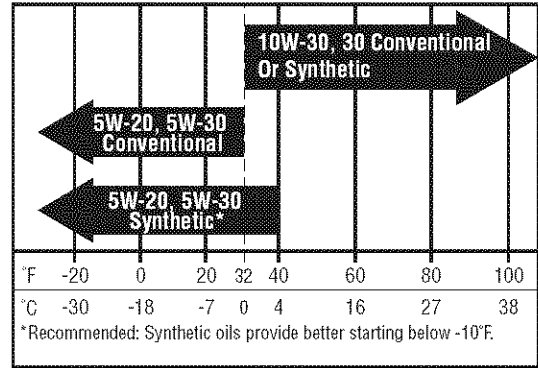
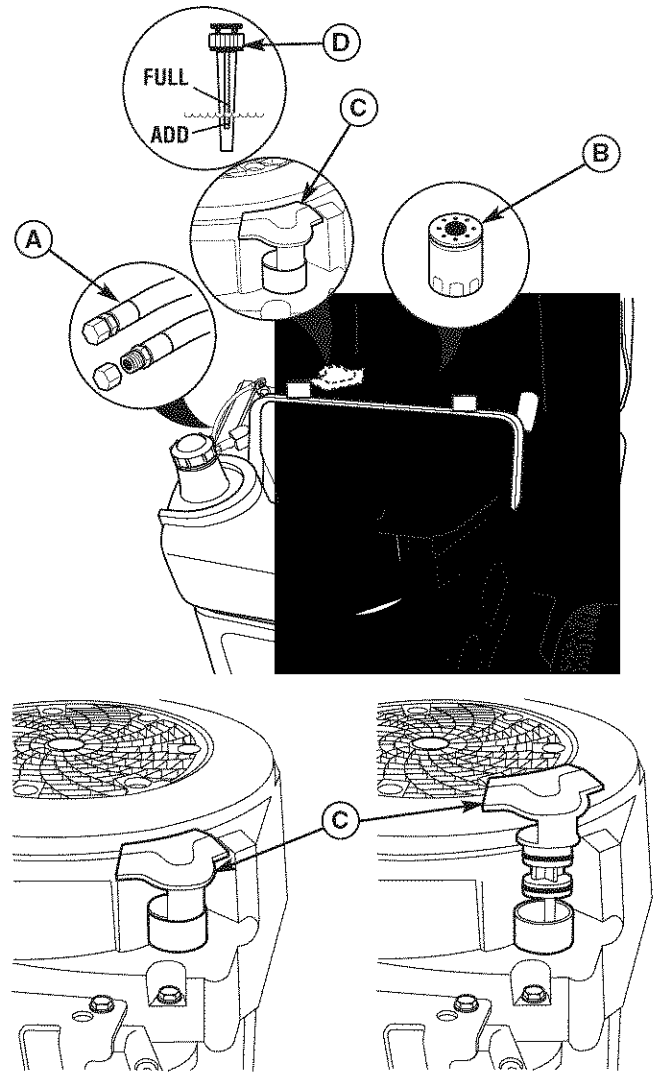

Figure 24. Recommended Engine Oil - Kohler Models
Figure 25. Oil Change - Kohler Models
2. Clean the area around the dip stick (C, Figure 25).
3. Remove the dip stick (C) and clean it with a paper towel.
5. Remove the dip stick and read the oil level. The oil level should be between the “F” and “L” marks (D). If not, add oil according to the oil recommendations chart (Figure 24).
1. Clean the area around the dip stick (C, Figure 25) and oil drain (A).
2. Remove the oil drain plug (A) and dip stick (C). Allow ample time for complete drainage.
3. Remove the oil filter (B). Discard the filter.
7. Reinstall the oil drain plug (A) and route the oil drain hose along side the engine.